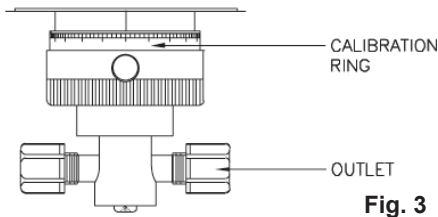

Fig. 3
10. PUMP STROKE ADJUSTMENT. The knurled ADJUSTMENT NUT on the pump head controls stroke to stroke piston displacement. Turning it clockwise to zero stops displacement. Turning the ADJUSTMENT NUT counterclockwise four and one half turns from zero (450 on scale) (Figs. 3,4)